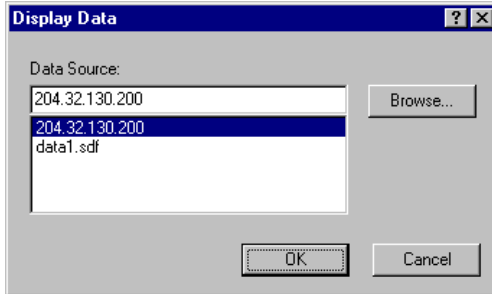

Figure 5-22. Display Data
1. Click Display Data. A display Data dialog box opens (Figure 5-22).